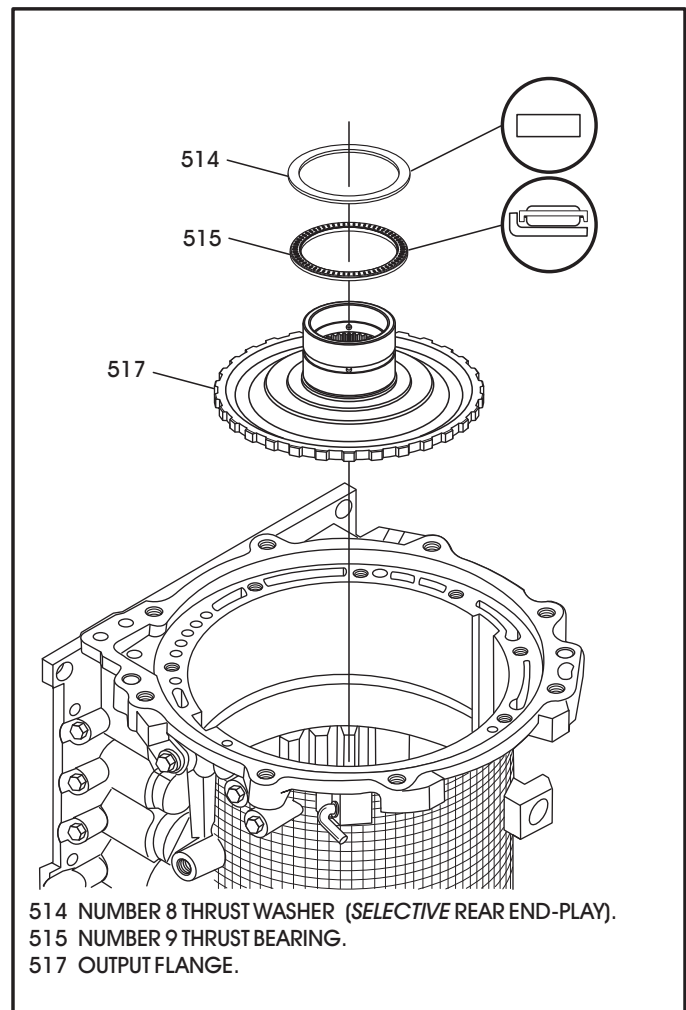

Figure 182
11. Install the output flange into the splines of the output shaft, as shown in Figure 182.
12. Install the number 9 thrust bearing over the hub of the output flange, as shown in Figure 182.
13. Install the number 8 selective thrust washer on top of the number 9 thrust bearing, as shown in Figure 182.